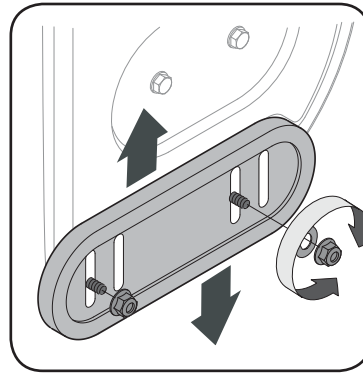

Figure 5-6 - Plastic Reversible
**NOTE:** Some models are equipped with reversible skid shoes and may be turned over to increase their lifespan. See Figure 5-6 and 5-7.